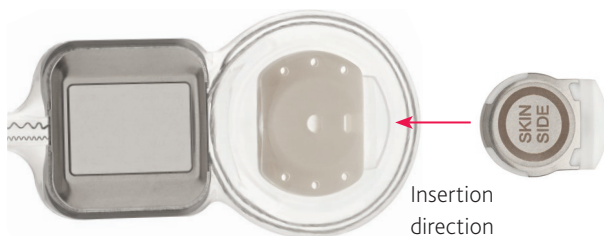

Figure 28: Replacement magnet cassette
- the engraving SKIN SIDE (or MRI) is facing up – see *Figure 28* below.